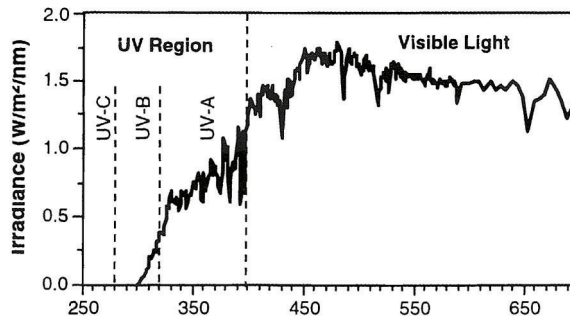

Figure 1 - The Sunlight Spectrum
**The Sunlight Spectrum.** The electromagnetic energy from sunlight is normally divided into ultraviolet light, visible light, and infrared energy. Figure 1 shows the spectral power distribution (SPD) of noon mid-summer sunlight. Infrared energy (not shown) consists of wavelengths longer than the visible red wavelengths and starts above about 760 nanometers (nm). Visible light is defined as radiation between 400 and 760 nm. Ultraviolet light consists of radiation below 400 nm. The International Commission on Illumination (CIE) further subdivides the UV portion of the spectrum into UV-A, UV-B and UV-C as shown below.